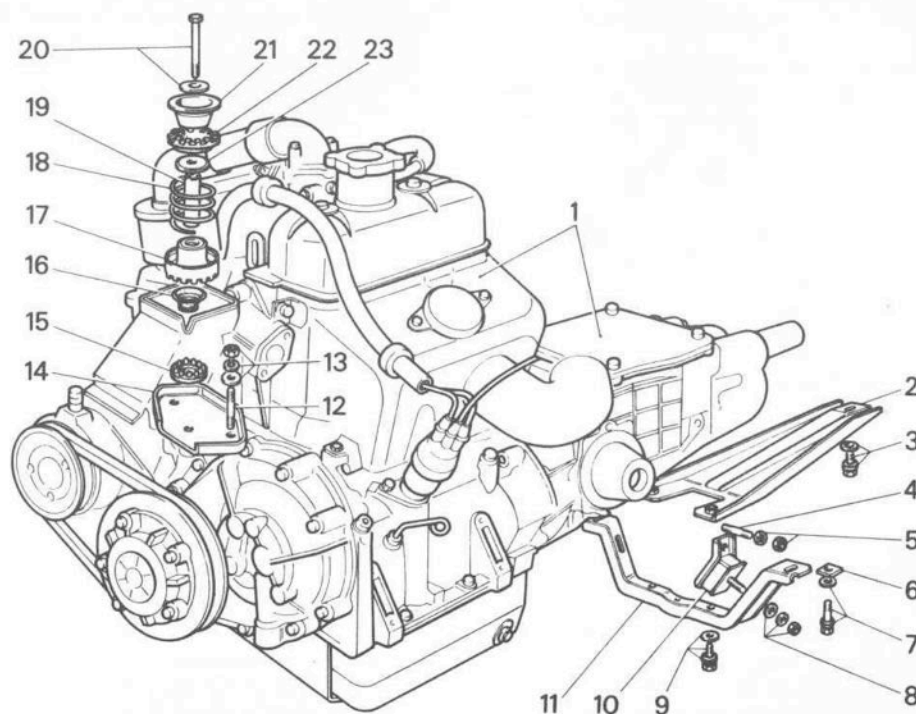

FIG 1:28 Details of the flexible mountings for the power unit
1 Fit new gaskets throughout (see **FIG 1:7**). With pistons and connecting rods fitted to their respective cylinder barrels, refit the barrels to the crankcase on new gaskets. If the holding-down studs were removed, these must be refitted before the barrels are inserted. Fit tubes or Fiat tool A.60156 to hold the cylinders in place.
**Key to Fig 1:28** 1 Power unit 2 Bracket 3 Bolt, flat and lockwashers 4 Stud 5 Nut and lockwasher 6 Plate 7 Bolt, flat and lockwashers 8 Nut, flat and lockwashers 9 Bolt, flat and lockwashers 10 Insulator (rubber mounting) 11 Support bracket 12 Stud 13 Nut, flat and lockwashers 14 Rear mounting plate 15 Lower rubber pad 16 Rubber bush 17 Upper rubber pad 18 Spring 19 Spacer 20 Bolt and flat washer 21 Upper cup 22 Thrust ring 23 Flat washer
- 2 Fit the top-half shells to the connecting rods, making sure that the lugs are correctly located in the grooves in the rods. This will also apply to the caps. Slide the crankshaft into place, lubricate the journals and fit the main bearing supports (see FIGS 1:2 and 1:26). There is a gasket under the support at the flywheel end. Tighten the screws to 22 lb ft (3 kgm). Check that the crankshaft turns freely.
- 3 Oil the journals and fit the connecting rods and caps. Make sure that there is no dirt behind the big-end shells and that the lugs on the shells are correctly located in the grooves in the caps. Tighten the big-end nuts to 25 lb ft (3.5 kgm). Check that the connecting rod marking faces the camshaft as shown in FIG 1:21. Check for free movement.
- 4 Check that the camshaft bores are clean and free from burrs. Oil all running surfaces and slide the camshaft carefully into place. Fit the inner thrust ring to the timing gear end of the crankshaft. The inner bevel must face the crankshaft radius fillet as shown on the right in FIG 1:2. Fit the second and larger washer and the Woodruff key. Fit the camshaft drive sprocket. Turn the crankshaft until the index mark is approximately in the position shown in FIG 1:27.